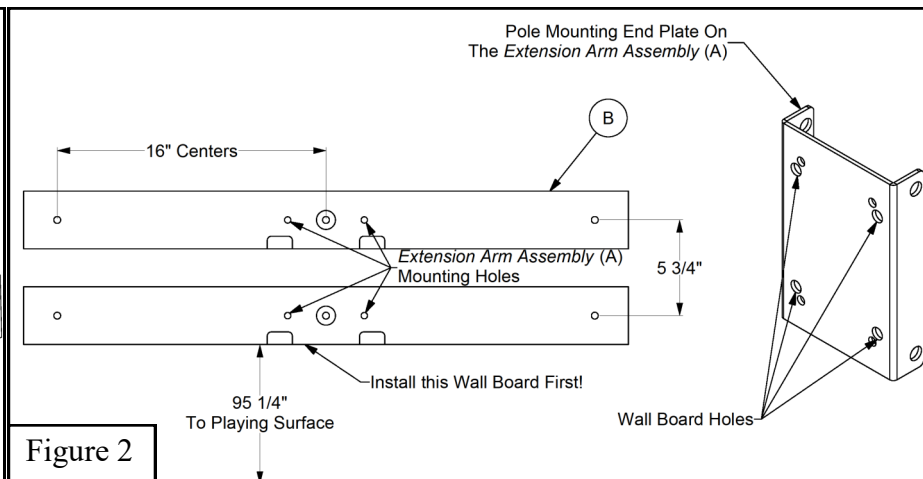

Figure 2
2. Using the *Wall Mounting Hardware* (P) that was selected by the installer suitable for use on the type of wall construction, mount the *Wall Boards* (B) to the wall at no less than 3 locations per *Wall Board* (B). If the predrilled wall mounting holes in the *Wall Boards* (B) interfere with joints or other wall obstructions, drill additional holes in the *Wall Boards* (B). See Figure 2.